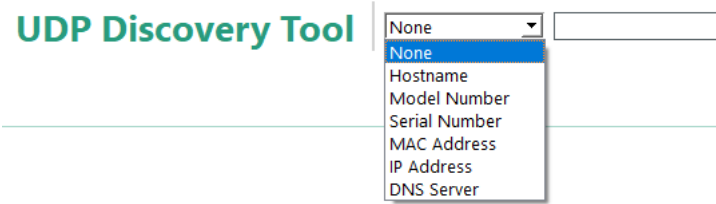

Figure 2-9. Filter List Box
1. Click the connection arrow to display the filter list box are shown in Figure 2-9.